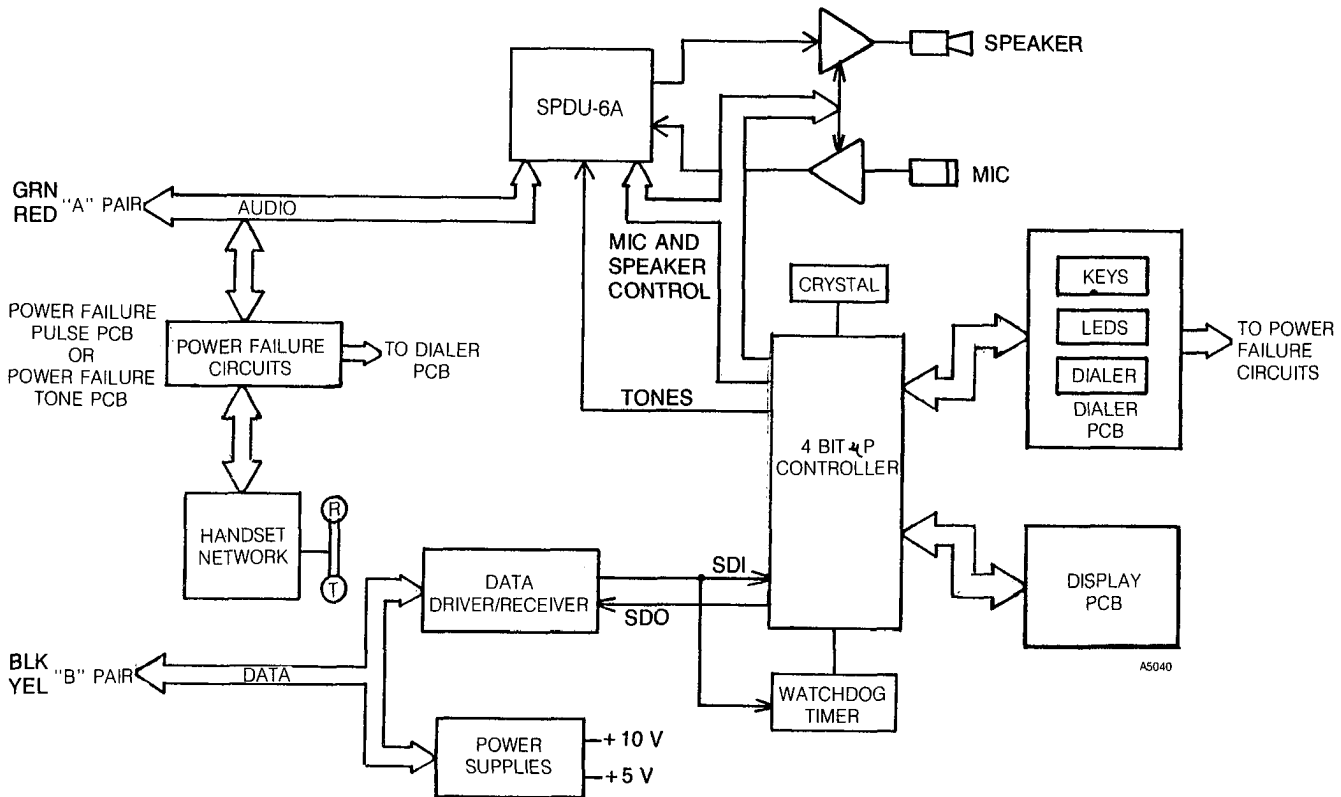

Figure 7-12 EXECUTIVE DISPLAY KEY TELEPHONE BLOCK DIAGRAM, EK-616
**8.06** The circuitry in the Executive Display Key Telephone (Figure 7-12) is similar to that in the Standard Key Telephone, with the addition of the Power Failure (DP or DTMF) PCB and the display components. All display telephones use the SPDU PCB to allow Handsfree communication on outside (CO) calls.